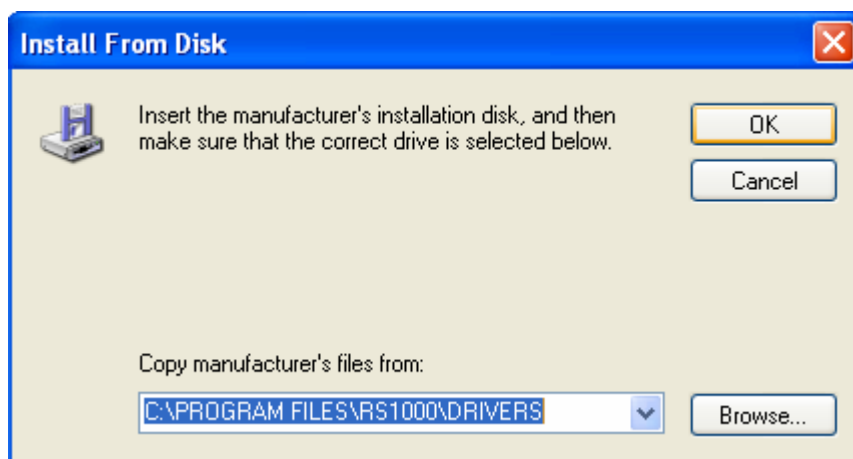

Fig. 07
**Step 7:** Browse to the “C:\Program Files\RS1000\Drivers” directory and click on “OK”. Proceed by clicking on “Next”. (Fig. 07)